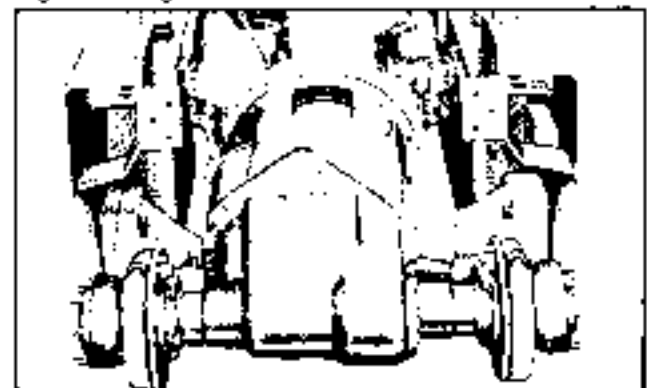

Fig. 1-27. Removing differential
c. Remove the bolts holding the differential to the transmission, and the axle support housing to the frame. Roll the assembly forward out of the truck. (See figure 1-27.)
NOTE: In figure 1-27, the drive wheels and some of the cowling has been removed to more clearly illustrate the parts involved. These parts do not have to be removed to remove the differential.